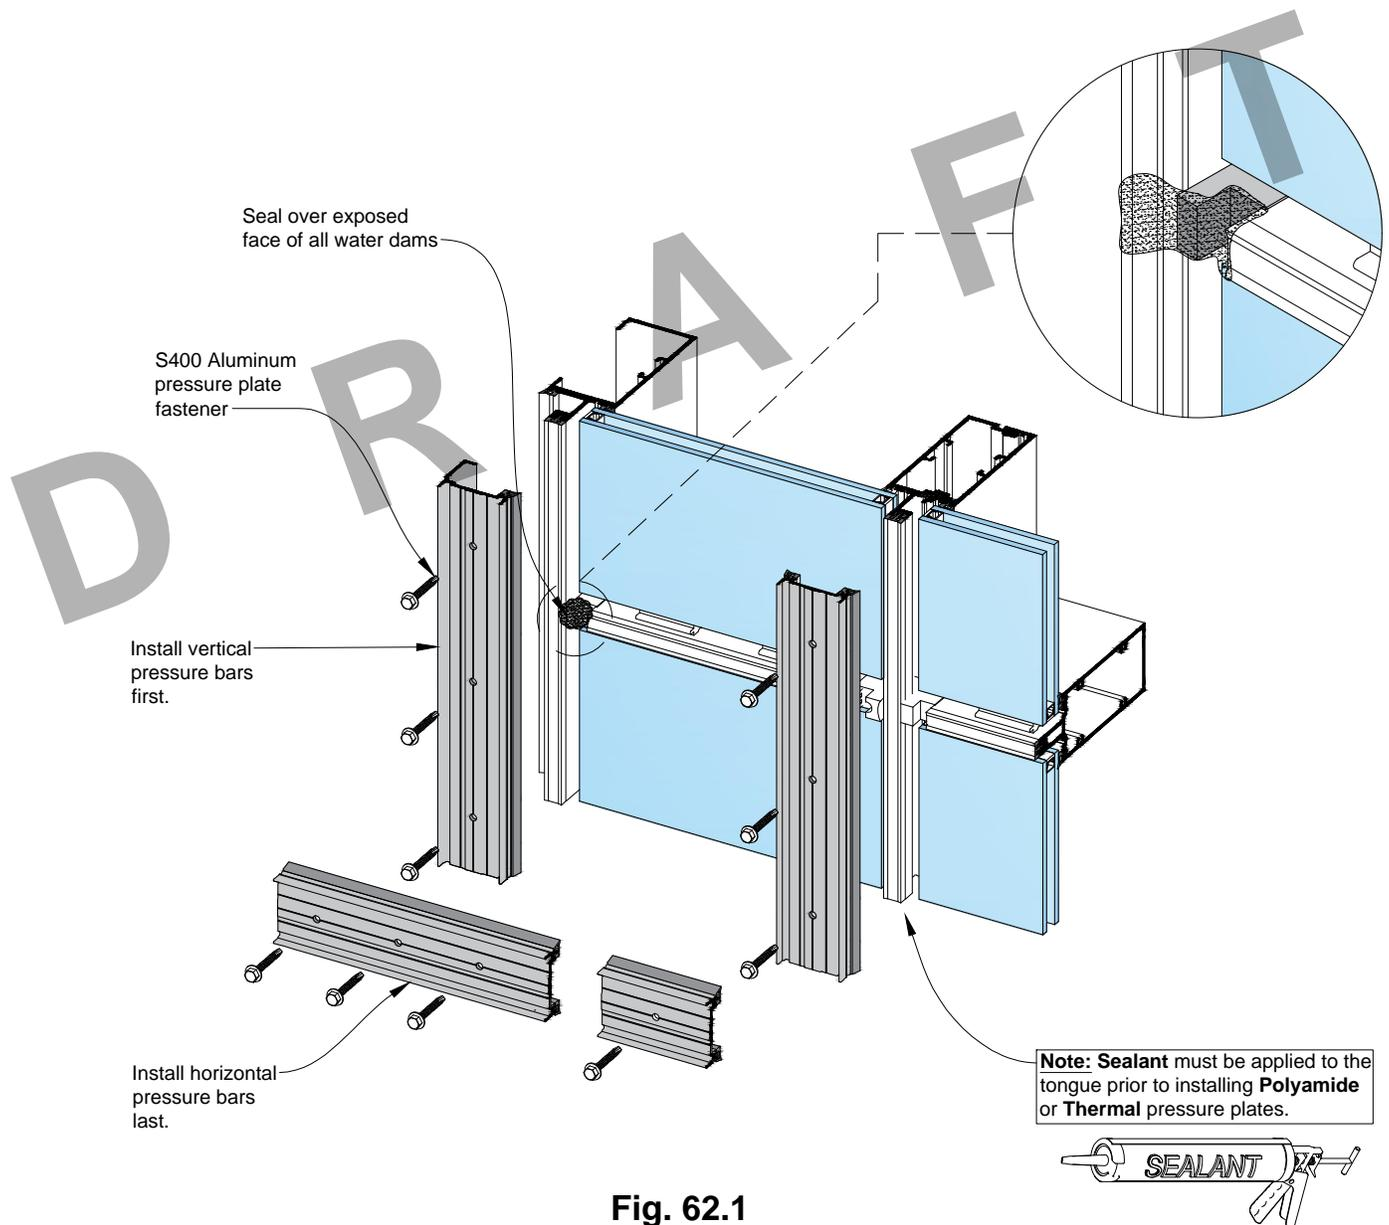
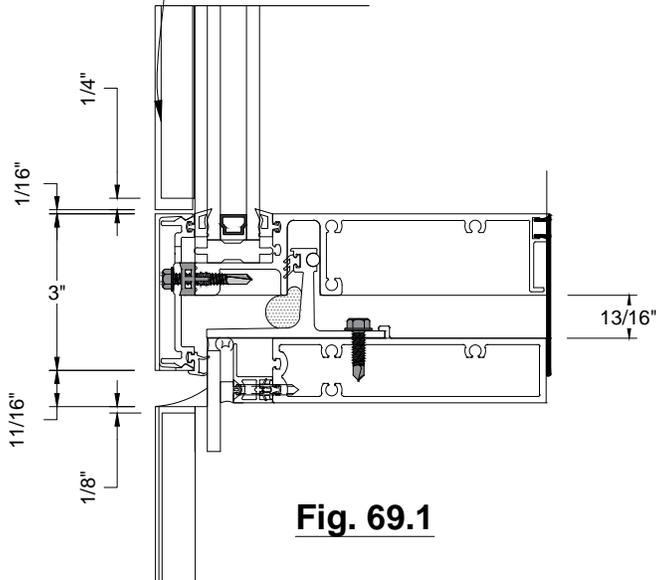

Fig. 62.1
Fig. 69.1
- B. Vertical pressure plates must be installed first. Prior to installing, apply sealant to the face of each water dam. See Fig. 62.1. For vertical pressure plates below expansion horizontals, maintain a 13/16" joint between the bottom of the expansion horizontal and the pressure plate. At the vertical pressure plates above expansion horizontals, locate 1/4" above the top of the upper horizontal. See Fig. 69.1.